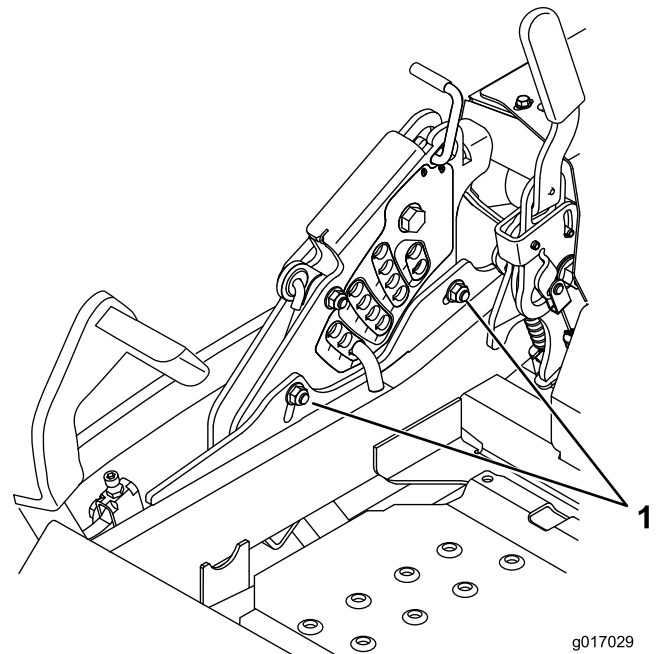

Figure 87
12. To adjust the single point system, loosen the two bolts at the bottom of the height of cut plate. Refer to Figure 87.
14. Tighten the two bolts at the bottom of the height of cut plate (Figure 87). Torque to 37-45 N-m (27-33 ft-lb).